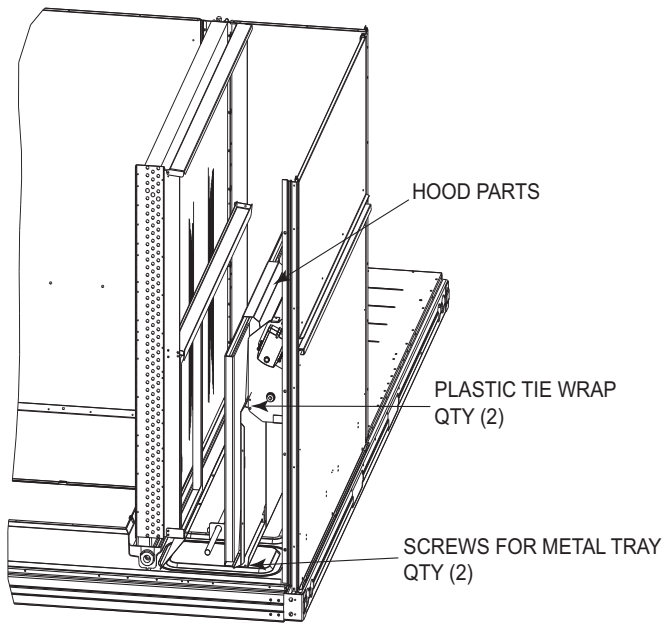

Fig. 15 — Damper Assembly
2. Locate the (2) screws holding the metal tray to the basepan and remove. In order to remove the screws, it may be necessary to remove the panel underneath the two-position damper. Locate and cut the (2) plastic tie-wraps securing the assembly to the damper. (See Fig. 15.) Be careful not to damage any wiring or cut tie-wraps securing any wiring.